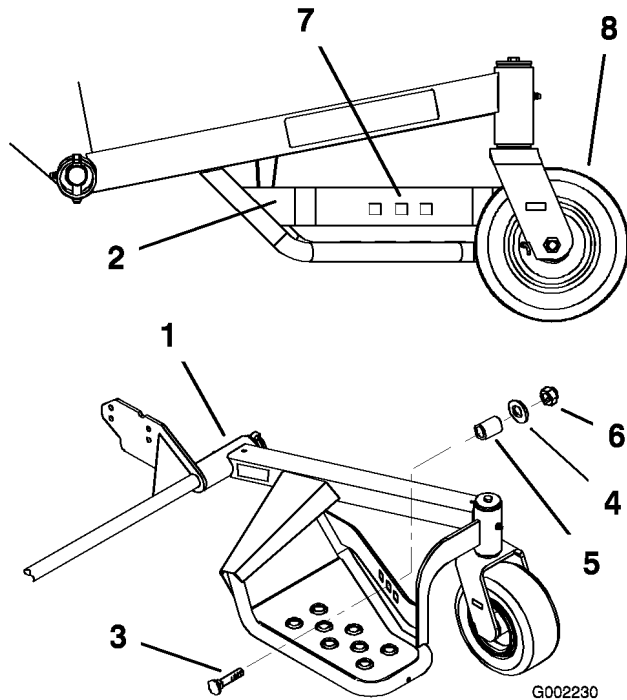

Figure 12
2. Locate the three adjustment holes in the sulky assemblies (Figure 12). The hole closest to the sulky wheel is used when the handle is in the high position. The middle hole is for the middle handle height position and the front hole is for the low handle height position.
3. Install the nut (5/16 inch), washer (1 inch O.D.), spacer and bolt (5/16 x 1 inch) into the correct hole location determined above (Figure 12).